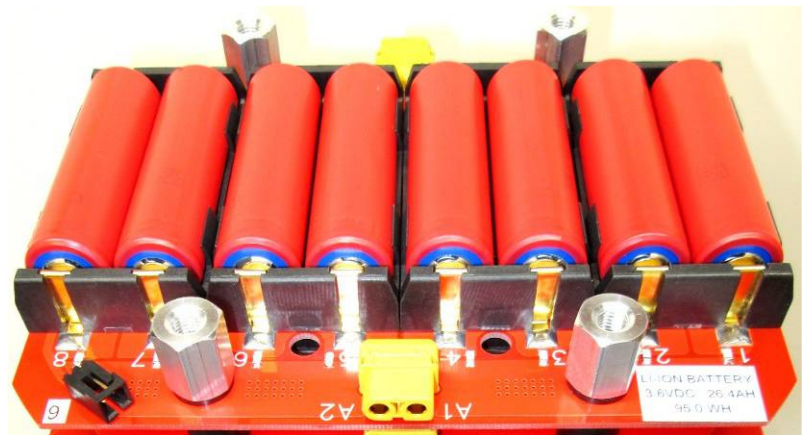

Figure 37
23. Install 4 black plastic 1/16" (1.6mm) thick washers, one on each threaded rod (Figure 36) **before** threading on the 5/8" (16mm) long threaded hex spacers on each threaded rod until just finger snug. (Figure 37) Tighten each threaded spacer an additional 1/2 turn